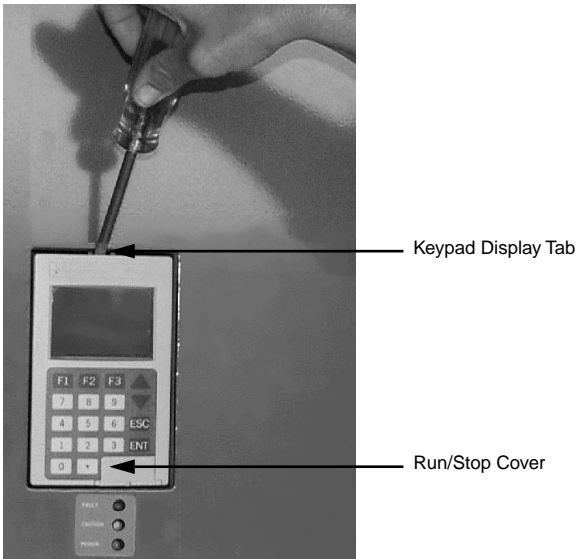

Figure 4.3.7: Removing the Keypad Display
1. Using the flat blade screwdriver, push in on the top of the keypad display tab and remove the keypad display (see Figure 4.3.7 on page 4.3.11).